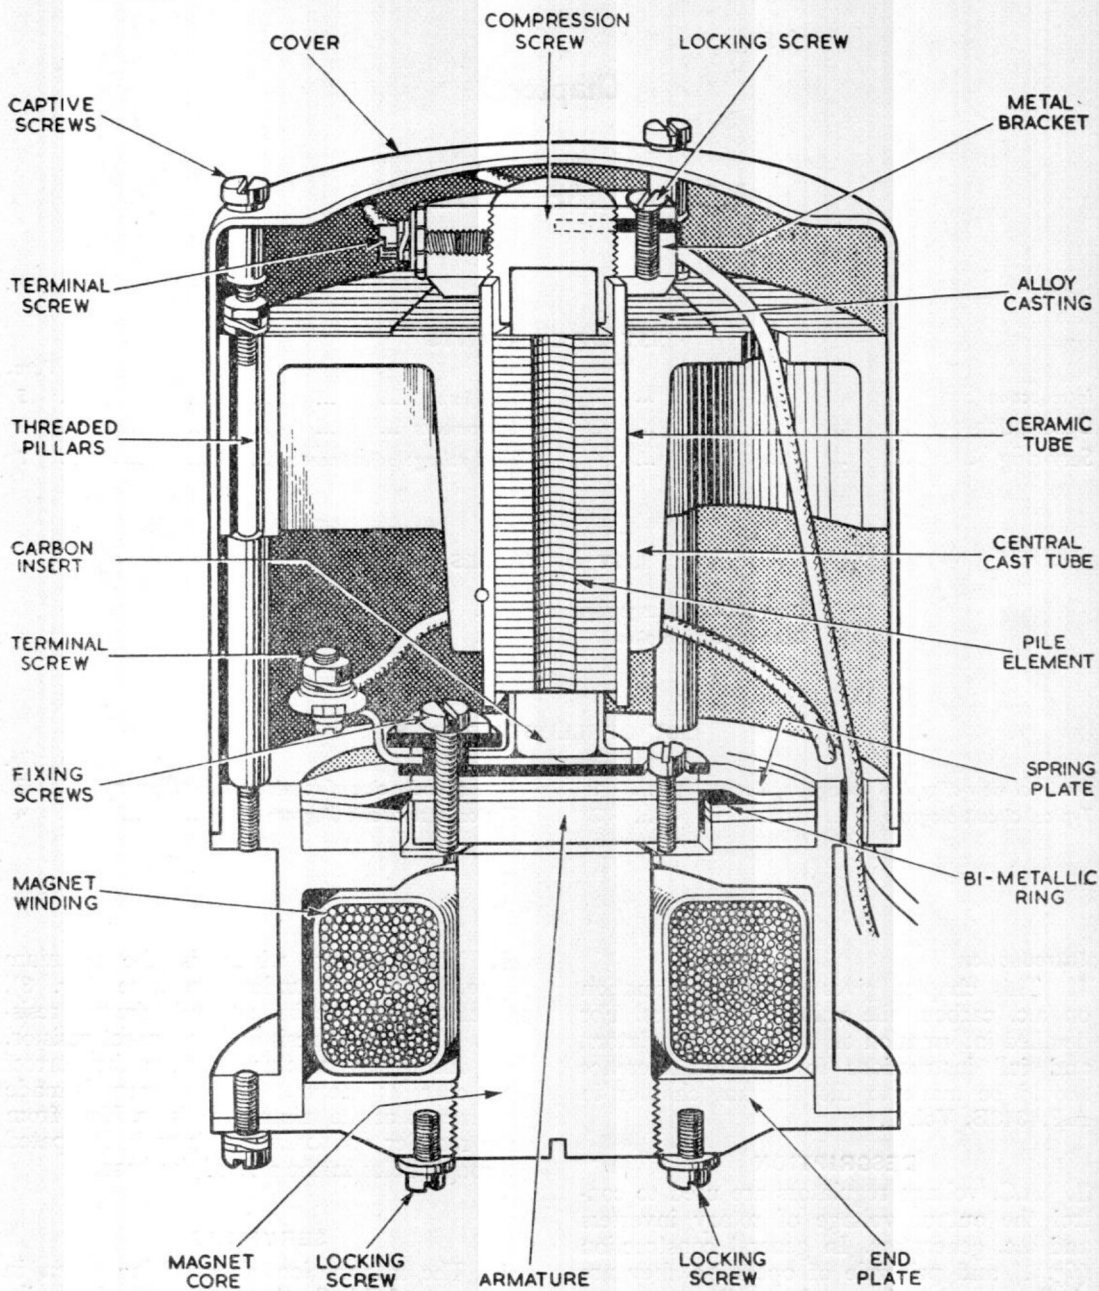
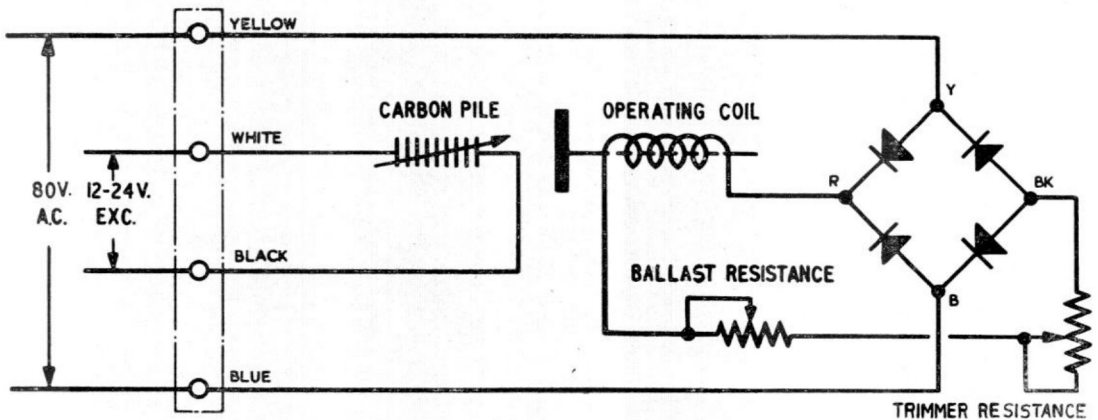

Fig. 1. Sectional view of typical voltage regulator
Fig. 2. Typical circuit diagram
2. A.C. voltage regulators are used to control the output voltage of rotary inverters and a.c. generators. In general construction (*fig. 1*) and principle of operation they are similar to the d.c. carbon pile regulators described in Chap. 1 of this Section, but, as can be seen in the typical circuit diagram in *fig. 2*, the current for the operating coil is obtained through a full-wave rectifier which is connected across the output of the a.c. generator.